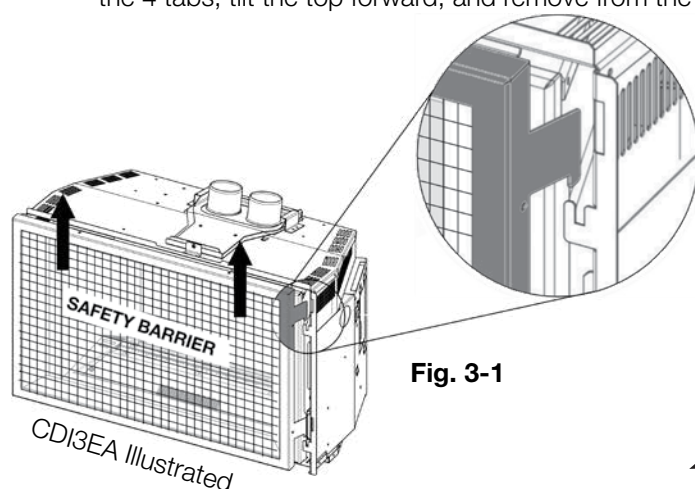

Fig. 3-1
1. Before the glass door can be removed, the safety barrier must be removed. Lift the safety barrier from the 4 tabs, tilt the top forward, and remove from the appliance (**Fig. 3-1 and 3-2**).